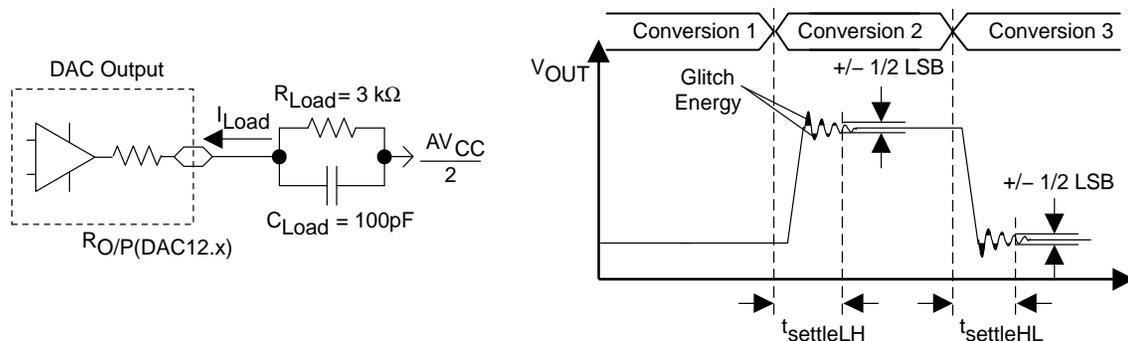
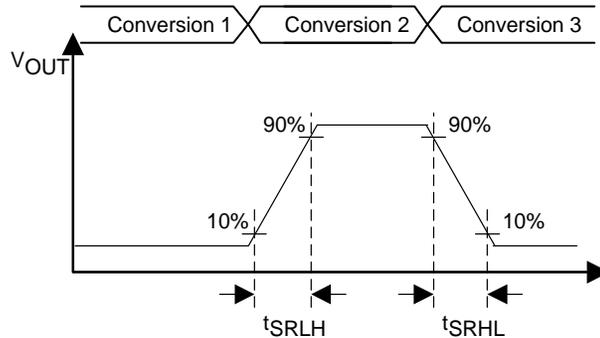

Figure 23. Settling Time and Glitch Energy Testing
Figure 24. Slew Rate Testing
12-bit DAC, dynamic specifications; Vref = VCC, DAC12IR = 1 (see Figure 23 and Figure 24)
- NOTES: 1. RLoad and CLoad connected to AVSS (not AVCC/2) in Figure 23.